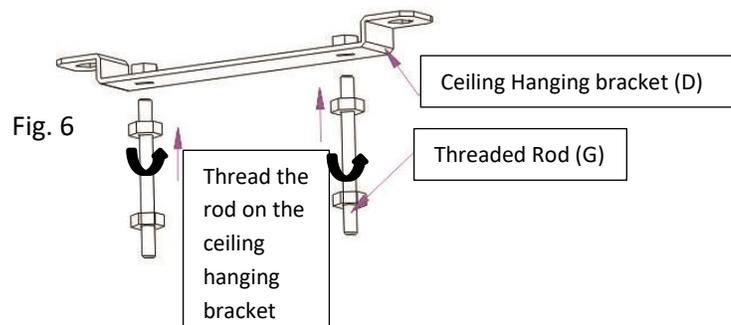

Fig 6
5. **Threaded Rod (G)** and **Ceiling Hanging Bracket (D)** assembly. Thread the **rod** in the **ceiling hanging bracket** as shown in Fig. 6.